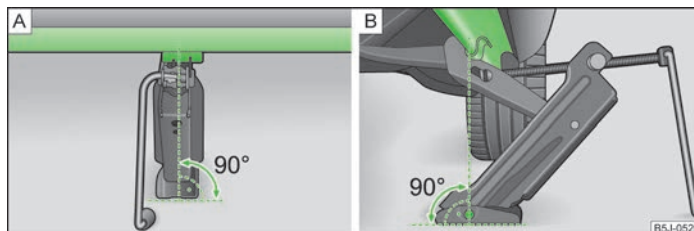

Fig. 132 Attach lifting jack
- Align the lifting jack so that its claw grasps the web » Fig. 132 -  below the embossing in the side surface of the lower sill.
- Ensure that the entire surface of the lifting jack base plate rests on level ground and is located in a vertical position to the area » Fig. 132 where the claw grasps the web.